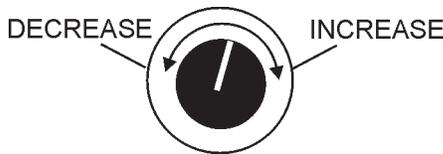

Figure 45. Voltage Adjust Control Knob
9. If the voltage is not within the specified tolerance, use the voltage adjustment control knob (Figure 45) to increase or decrease the desired voltage.